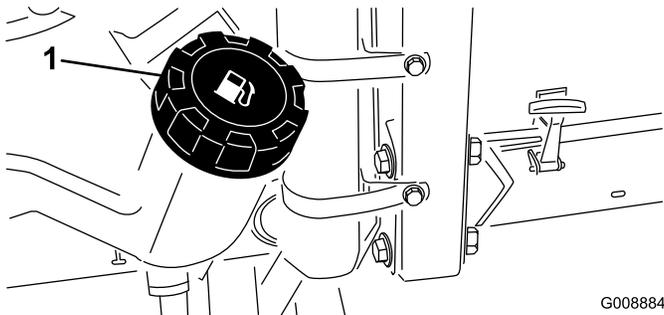

Figure 21
1. Clean the area around the fuel tank cap (Figure 21).